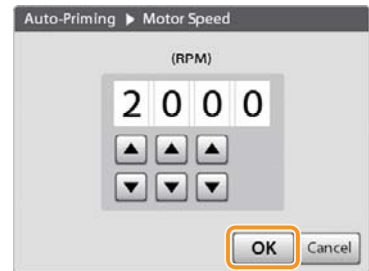

Figure 3-81
4. Tap [OK] to complete the setting. (Figure 3-81)